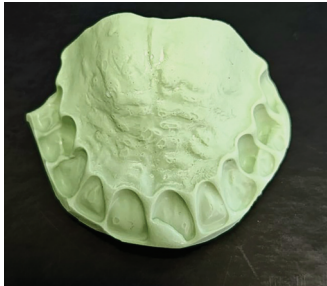

FIGURE 2: Putty matrix prior to adjustment.
- Use a putty matrix to place the palatal shelf increment. In trauma cases the putty can be adjusted using a finishing bur at low speed to create a matching palatal contour (Figures 2 and 3). A second option is to use a mylar strip supported by a flat plastic incisally to recreate the palatal shelf.